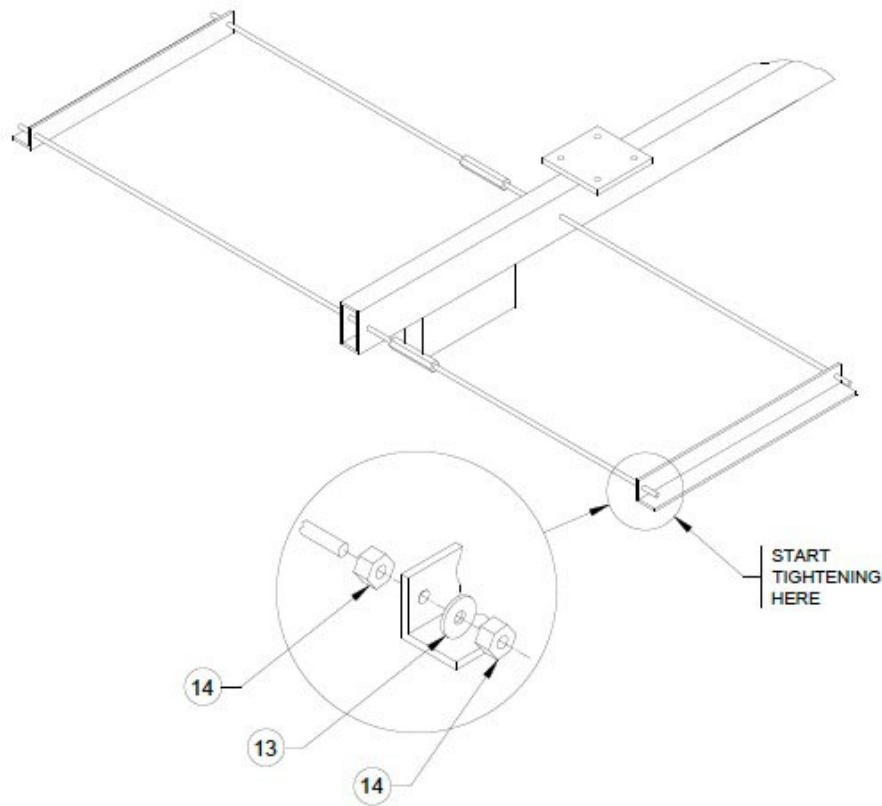

Figure 10: Securing the Block Assembly
11. Secure the block assembly by tightening the coupler nuts (14) on the clamp angles starting with the coupler nut closest to the threaded rod coupler (see Figure 10). Tighten and torque to 25 ft/lbs. Tighten the remaining coupler nuts in the entire assembly by working in a diagonal pattern for each side. If the rod turns, use the double nut method (shown in the circle) to keep the rod from spinning. Eight extra 3/8" coupler nuts were provided in the installation kit for the double nut method.